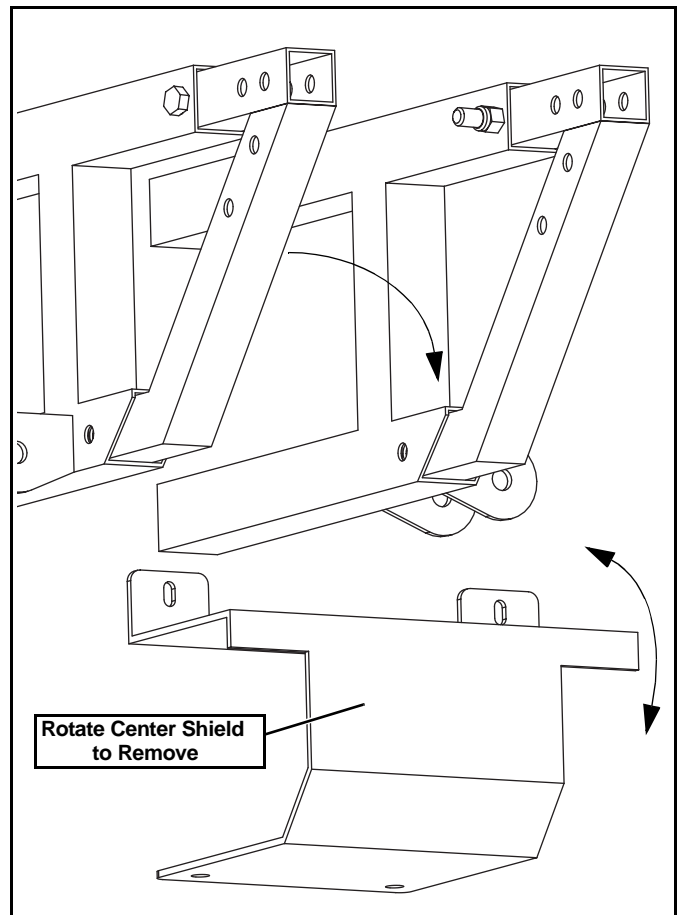

Figure 6
- Remove Center Shield and set aside for re-installation if vehicle mount kit is removed. (See Figure 6.) **NOTE:** You will need to turn bracket slightly in both directions in order to remove from frame.